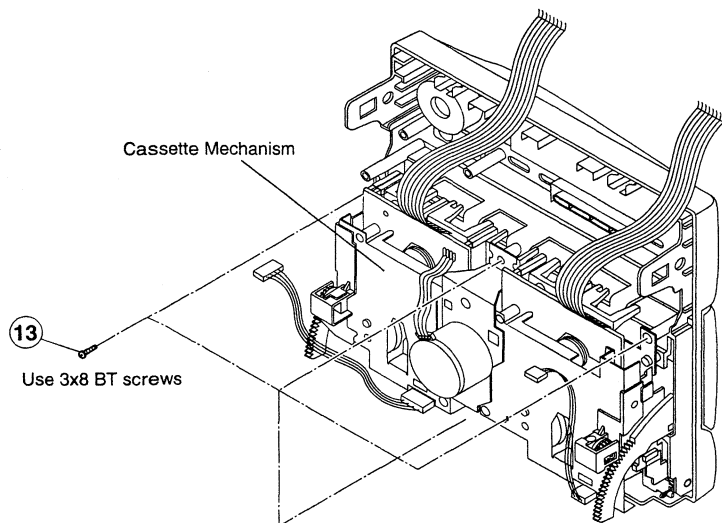
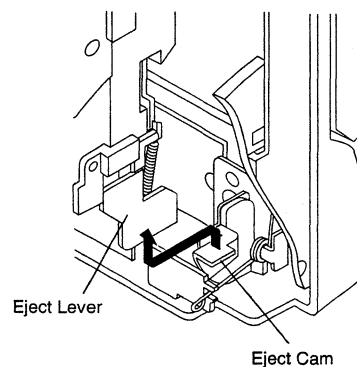

Fig. 10a
Fig. 10b
(1) Remove 4 screws ⑲ from the Display P.W.B. Board.
(2) Remove the Display P.W.B. Board. Note that the key buttons are also removed at this point.
10. **Removal of Cassette Mechanism (Fig. 10a & Fig. 10b)**